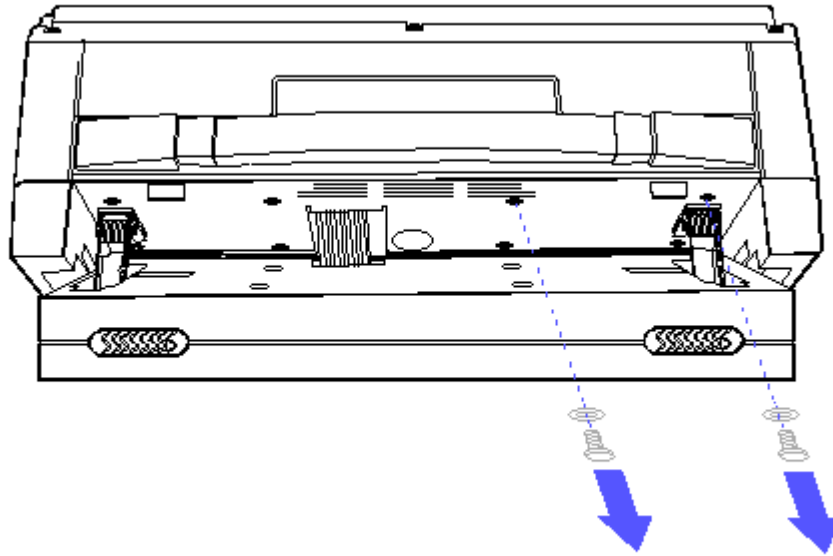

Figure 8-56. Removing the Top Two Screws and Washers from the Mass Storage Device Enclosure
8. Place the plasma display at an outward angle, and remove the top two screws and washers from the mass storage device enclosure with an angle Torx screwdriver (Figure 8-56).